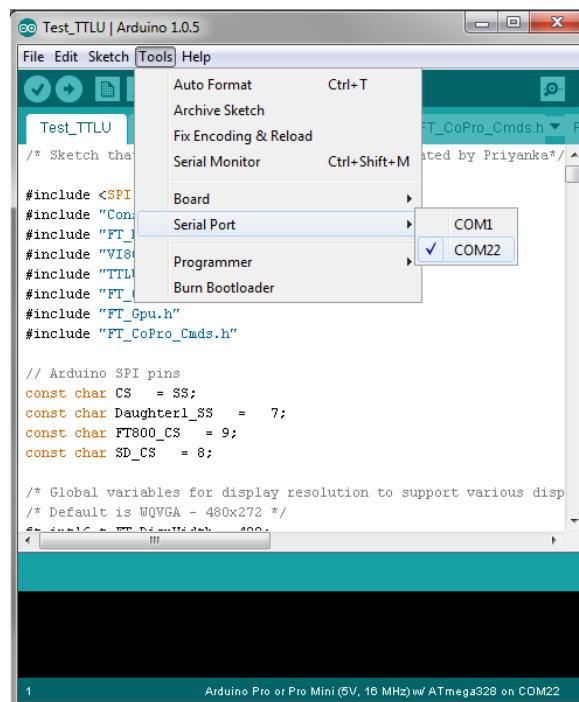

Figure 4-2 Select Serial Port
- Select the Tools->Serial Port->COMxx corresponding to the VM801P as shown in Fig 4.2.